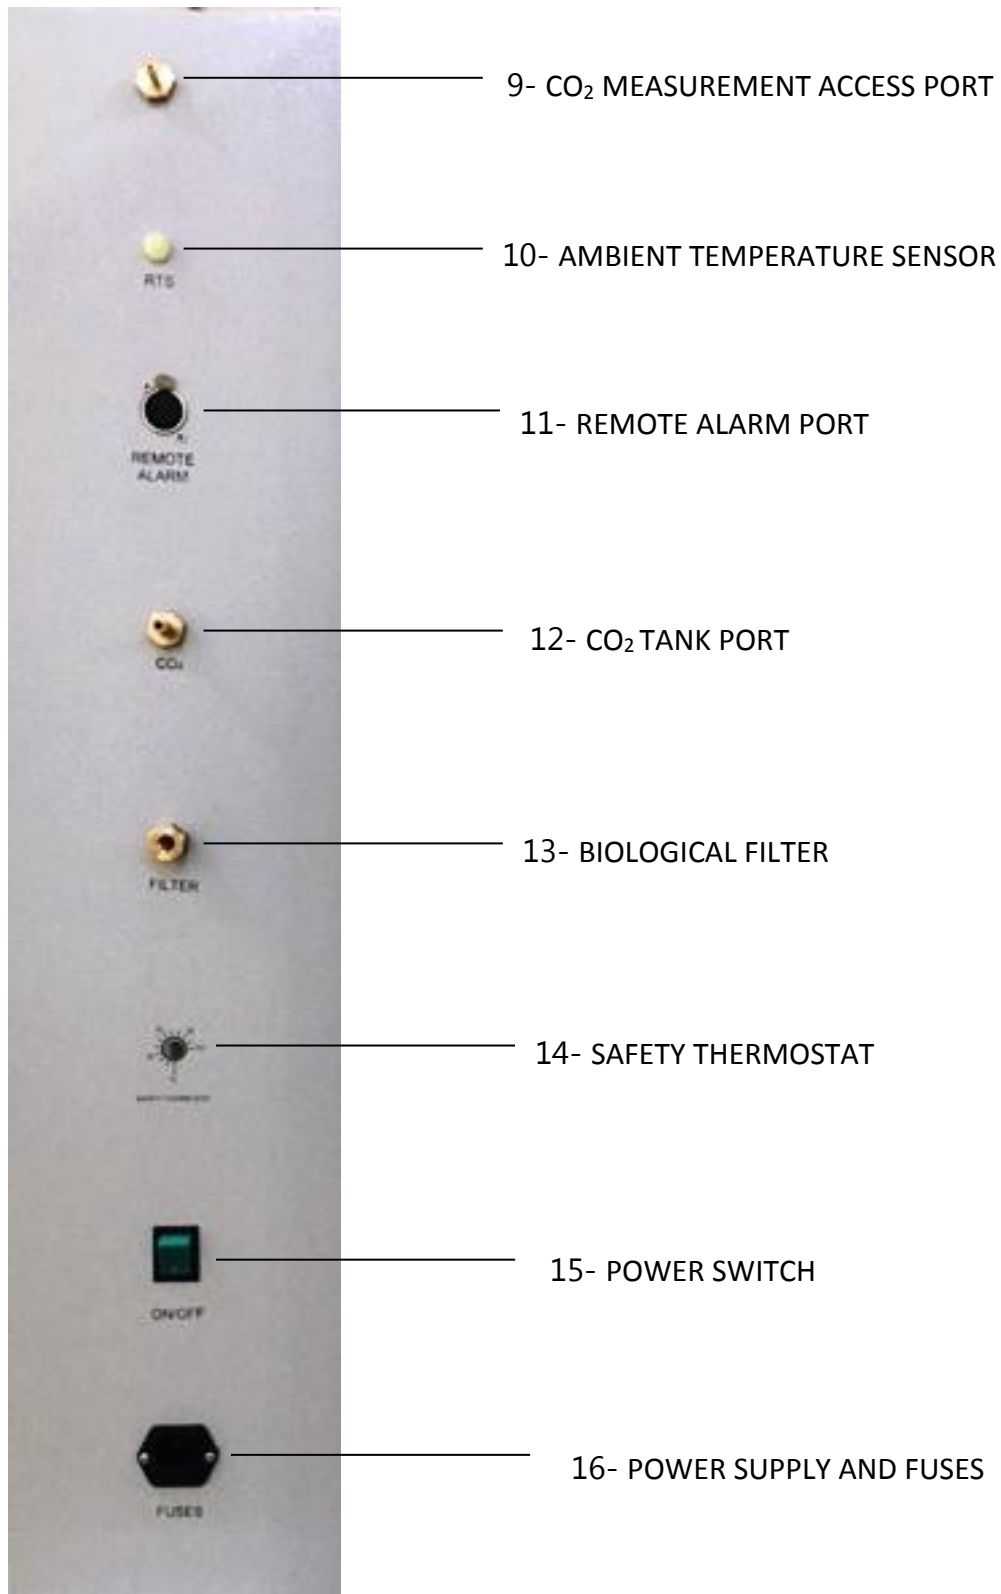

Figure 2
Mount the biological filter into “FILTER” port located at the back of the instrument as shown in Figure 2.
- Connect the tube between the CO₂ tank's regulator and the CO₂ tank port of the incubator (Figure 2).